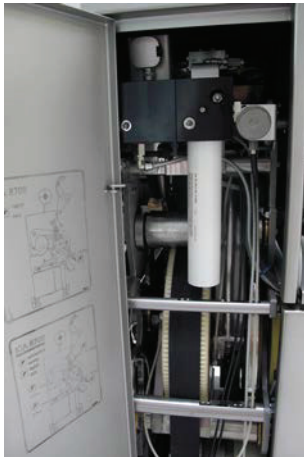

Fig. 7-38
- Open the left door on the back of the machine (Fig. 7-38).